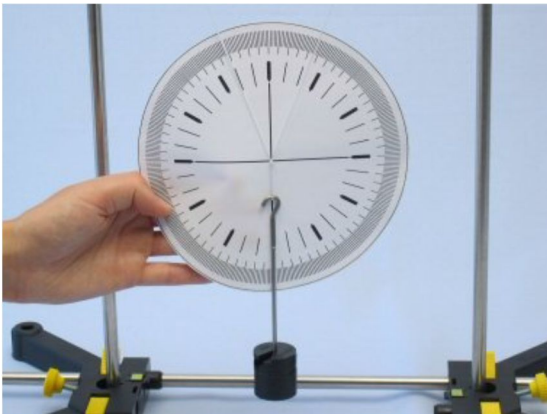

Fig. 9
- Hold the protractor sheet so that the center of the circle is exactly behind the suspension point of the mass and that the direction of the weight (force) coincides with one of the protractor's major axes (Fig. 9).